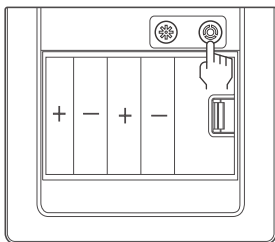

Figure 4
2. As shown in Figure 4, press the black safe mode button '⊗' on the battery compartment and there will be a voice prompt 'Enter high security mode successfully', indicating successful activation. Press the button again can turn 'Safe mode' off.